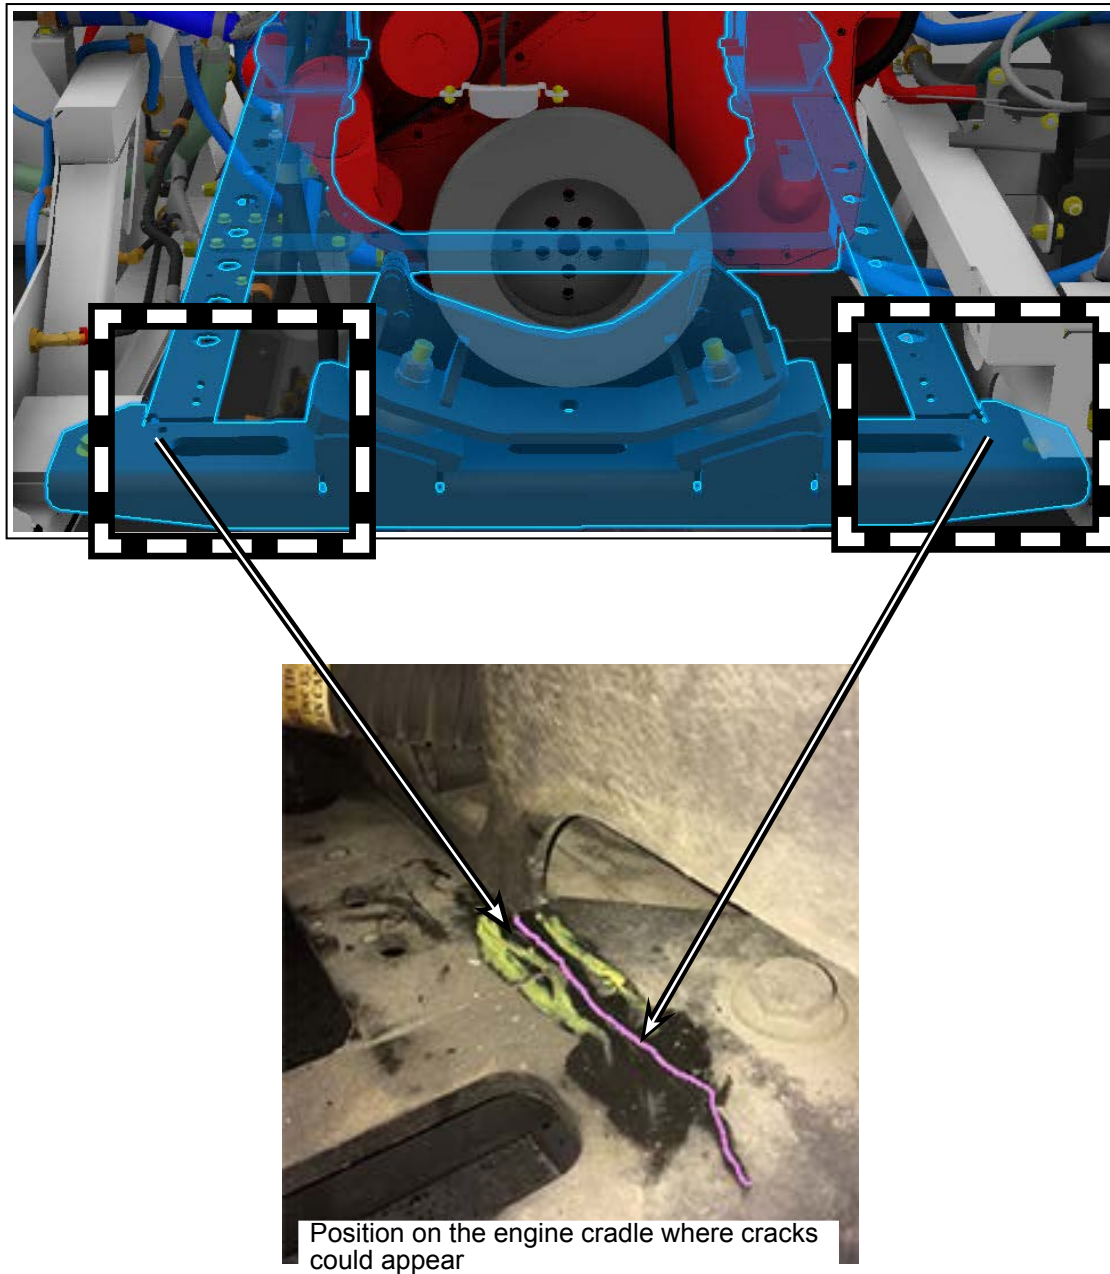

Figure 4 - Typical Crack on Engine Cradle
- 1.4. The cracks are normally located on the right and left rear corners of the engine cradle. If a crack is present, perform the necessary repair. See Figure 4.